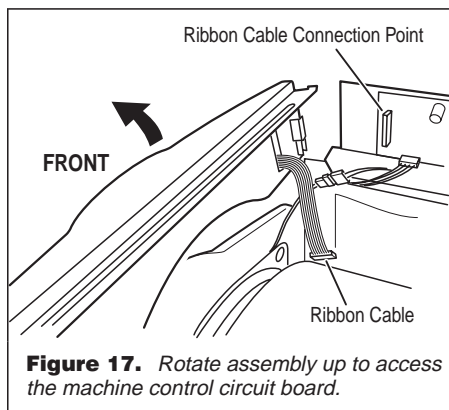

Figure 17. Rotate assembly up to access the machine control circuit board.
1. After locating the machine control electronics, disconnect the ribbon cables that run between the console and the machine control board. Make the disconnection at the machine control side. Remove the two screws that fasten the console assembly to dryer. Then remove the console assembly, sliding it up and off from the front of the machine. See figure 17.